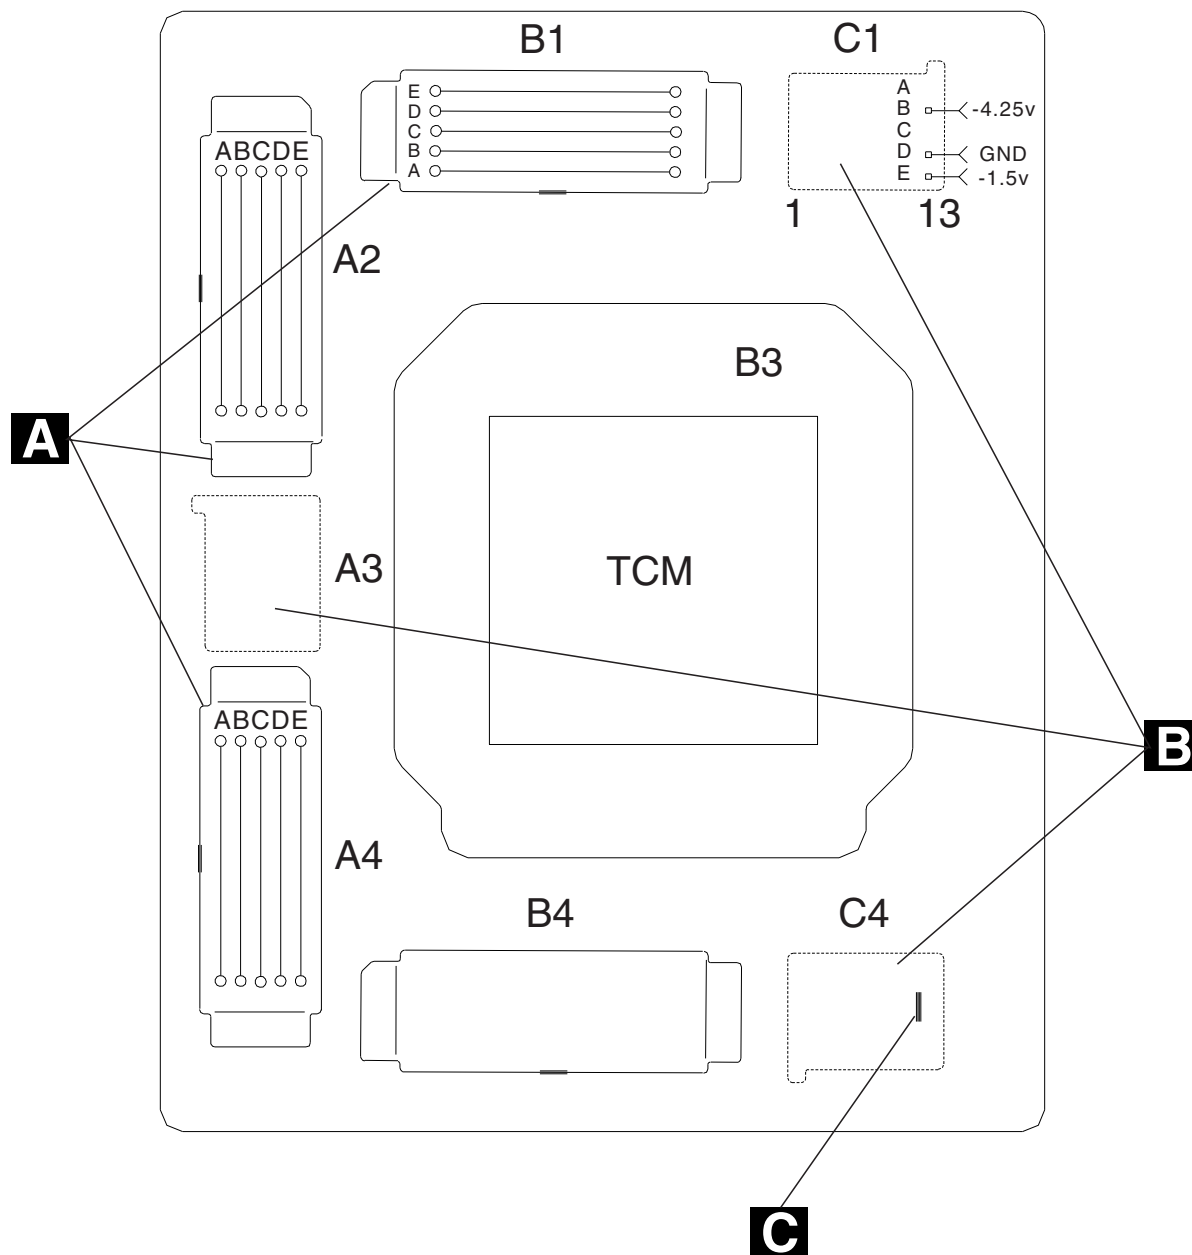

Figure 4-164. TCM Board
1. Referring to Figure 4-164 on page 4-176: